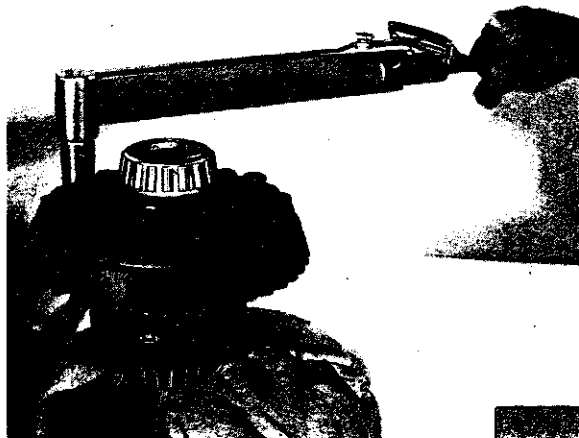

FIG. N-63—TORQUING RING GEAR SCREWS
- d. Assemble ring gear to new Trac-Lok case. Follow the same steps as illustrated in Fig. N-63. Make sure the gear flange on the differential case is free of nicks, burrs, etc.